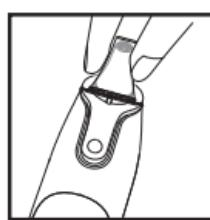
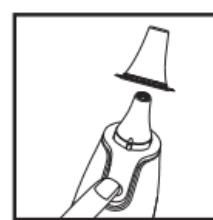

Figure 2
Figure 3
1. To achieve accurate readings, if a probe cover is needed, make sure a new, clean probe cover is in place before each measurement. Place a new probe cover on the probe firmly; making sure the probe and the inner portion of the probe cover fit snugly (Figure 2). If the probe cover needs to be removed after the measurement is completed, press the probe cover ejection button with appropriate force to remove the probe cover (Figure 3).